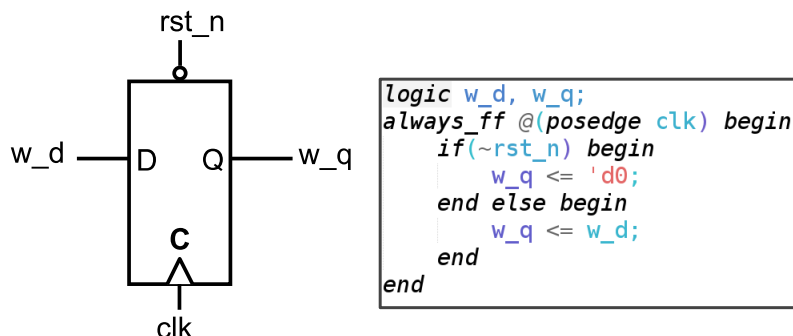

Figure 1: D flip-flop. Schematic and code snippet
The fundamental edge-sensitive synchronous sequential circuit element is called a *D flip-flop*, which samples and updates the state at the event of a positive edge of the clock signal. The schematic of a D flip-flop with *synchronous active-low reset* and its corresponding hardware description in SystemVerilog is given in Figure 1. As shown in the figure, a D flip-flop has a clock input pin (C), symbolized by the small triangle, indicating that it is sensitive to positive edges of the clock input. The D pin samples the input at the positive edge of the *clk* signal applied to C. The Q pin makes the sampled value available as an output after the positive edge of the clock. Finally, the reset pin, connected to the *rst_n* signal, will reinstate the reset value synchronous to the clock when a low value is applied. The fact that the reset is triggered by a logical low signal is shown by the inverter circle at the reset pin.
To complete this assignment, we will use the D flip-flop description given in Figure 1.
3. Define the behavior of the flip-flops with a `always_ff` block as shown in Figure 1. Trigger them on `slow_clk`.